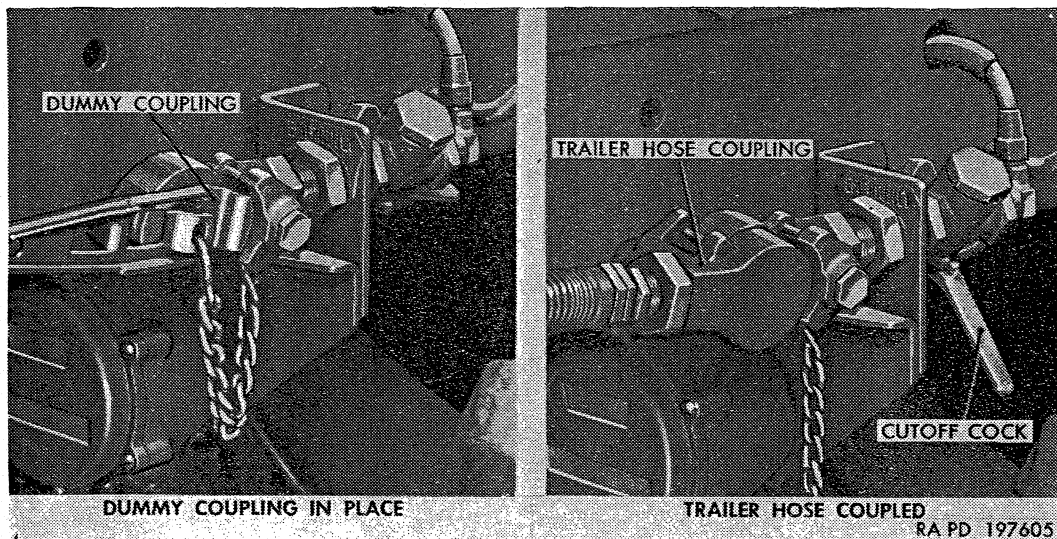

Figure 34. Trailer brake connection at rear of vehicle (EMERGENCY line shown).
- (1) *Rear of vehicle* (fig. 34). All vehicles, except gasoline tank truck M217 and water tank truck M222, are equipped with an air line coupling at rear end of vehicle on right and left sides. Coupling at right side of vehicle, marked EMERGENCY, delivers a constant supply of compressed air to trailer brake system. Coupling at left side of vehicle, marked SERVICE, delivers air pressure to trailer operating valve when vehicle service brakes are applied. A cutoff cock at
(1) *Connecting trailer brake lines.* When connecting trailer brake couplings at rear of vehicle (fig. 34) or at semitrailer connections at cab of tractor (fig. 35), remove dummy coupling from EMERGENCY and SERVICE couplings on truck and trailer. Couple trailer EMERGENCY and SERVICE line coupling halves to truck EMERGENCY and SERVICE line coupling halves, making certain that the